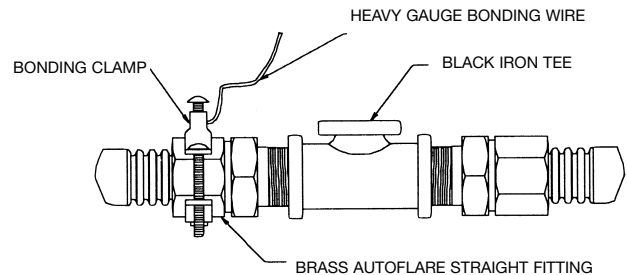

Figure 4-21
- For bonding of the **TracPipe**® system, a bonding clamp must be attached to the brass AutoFlare® fitting adapter (adjacent to the pipe thread area – see Figure 4-21) or to a black pipe component (pipe or fitting) located in the same electrically continuous gas piping system as the AutoFlare® fitting. The corrugated stainless steel portion of the gas piping system **SHALL NOT** be used as the bonding attachment point under any circumstances. Bonding electrode conductor sizing shall be in accordance with Article 250 (Table 250-66) of ANSI/NFPA 70. The bonding is a requirement of the National Electrical Code.
- a. If possible, avoid running the bonding jumper a long distance through the building. The connection should be as short as possible. Gas meter should be near the electrical service if possible. If not, the bond can be connected at any point near the electrical service per Figure 4-21.